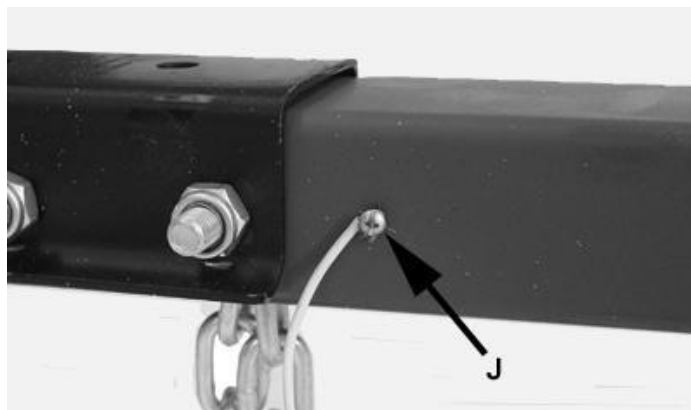

Figure 9-4
11. Attach the white ground wire to the small hole on the left side of tow bar with a 4mm self-tapping screw (J). See figure 9-4.